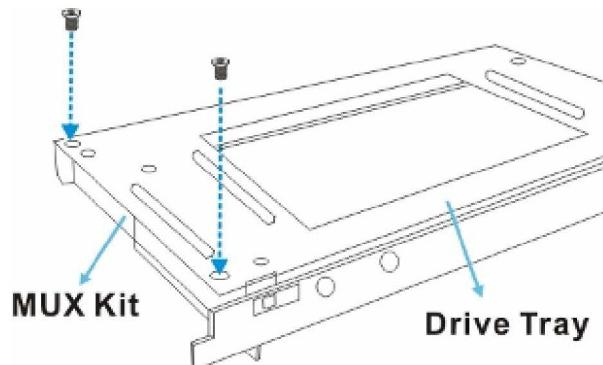

Figure 5-38: Fastening the MUX Kit Screws
Step 6. Hold the MUX kit in place and turn the drive tray over. Insert the two (2) retention screws from the bottom of the drive tray. These screws will firmly secure the MUX kit to the drive tray and facilitate the installation of the appropriate drive. (See **Figure 5-38**)